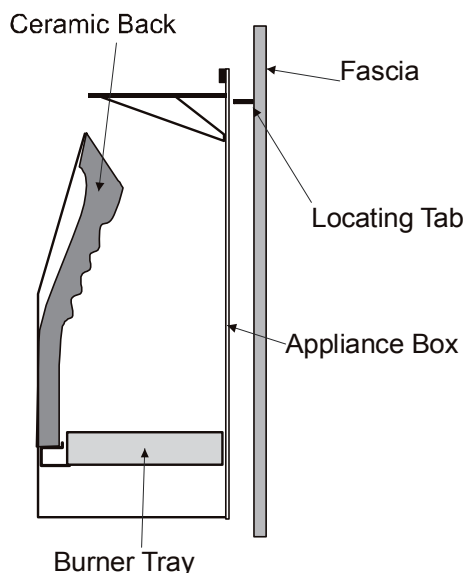

Figure 63
5. Offer the mounting frame up to the appliance opening, taking note of the locating tab projecting to the rear of the mounting frame as shown in **Figure 63**.